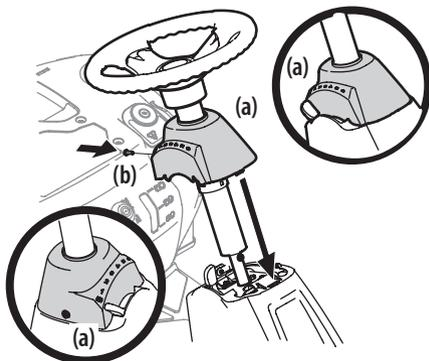

Figure 4
7. Slide the pedestal cap (a) down onto the riding mower and slightly rotate to the right to clip into place. Secure the pedestal cap (a) with the screw (b) previously removed. See Figure 4.